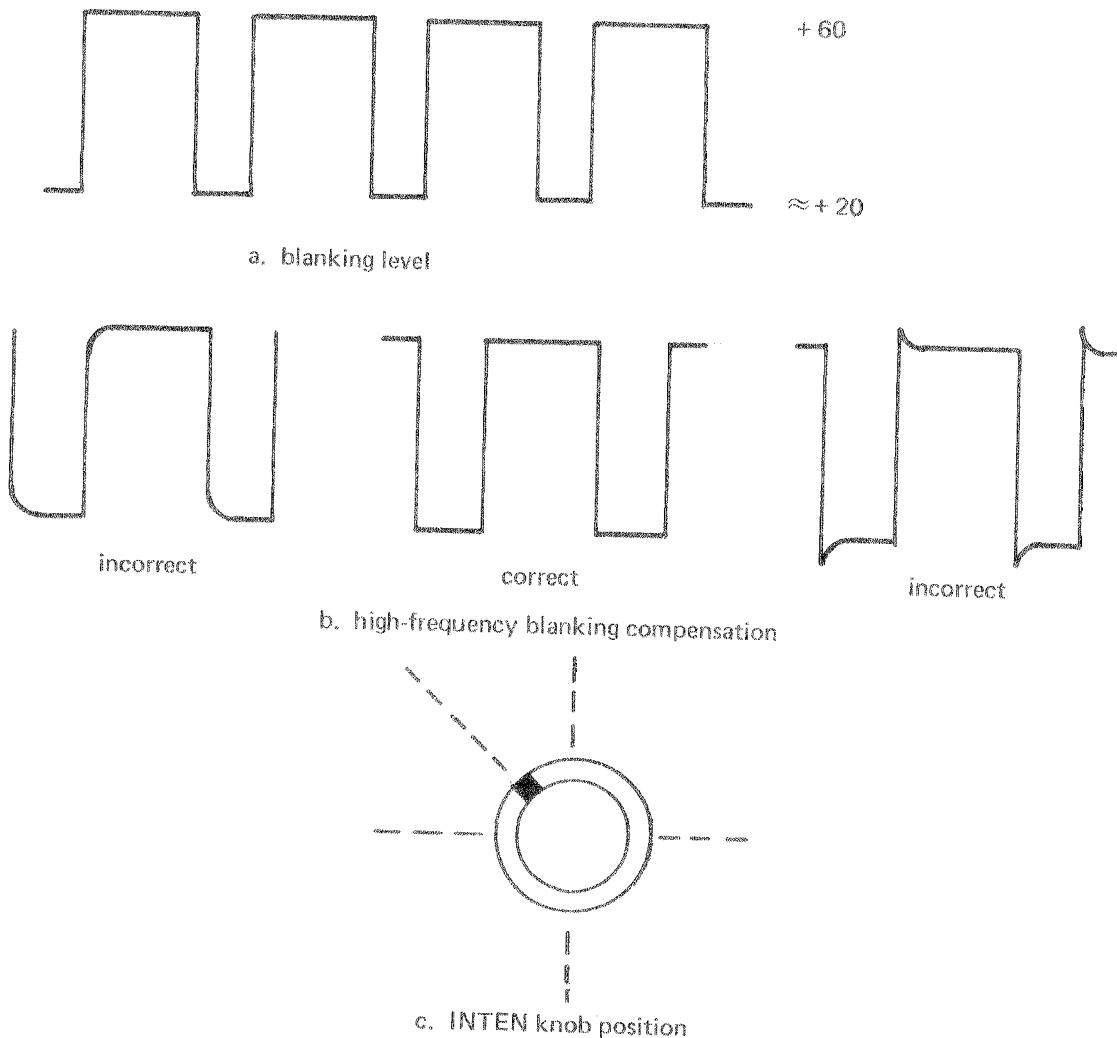

Figure 4-1 CRT Adjustments
2. Set the TIME/DIV switch (17) at .2 mS.
4. Connect the test oscilloscope probe to TP9 (T-1988B-P) (see Figure 4-1), and adjust BLANKING trimmer pot VR111 (T-1988B-P) so the positive peak of the TP9 signal is at + 60 volts (see Figure 4-1a).